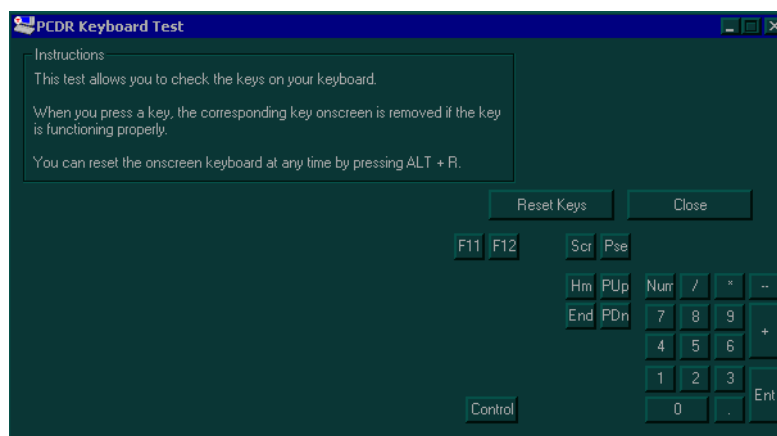

Figure 7-60 Remaining Keys On-screen After All Keyboard's Keys have been Pressed
- 3.) Press each key on your keyboard once and make sure that the corresponding keys on-screen are removed from view. If a key on-screen is not removed, that key may be damaged and you may have to have your keyboard repaired or replaced. Since some of the displayed keys are missing on Vivid 7, they cannot be removed. See Figure 7-60.